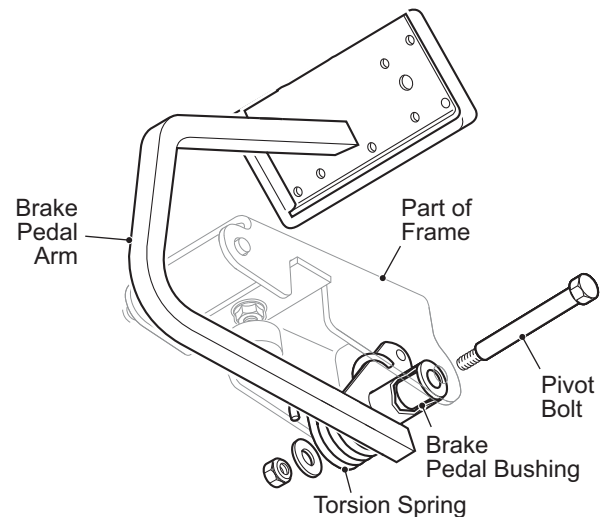

Figure 4 Brake Pedal Inspection
- If the pedal does not return fully or is sluggish, the brake pedal bushings and pivot bolt should be inspected (Ref. Figure 4).